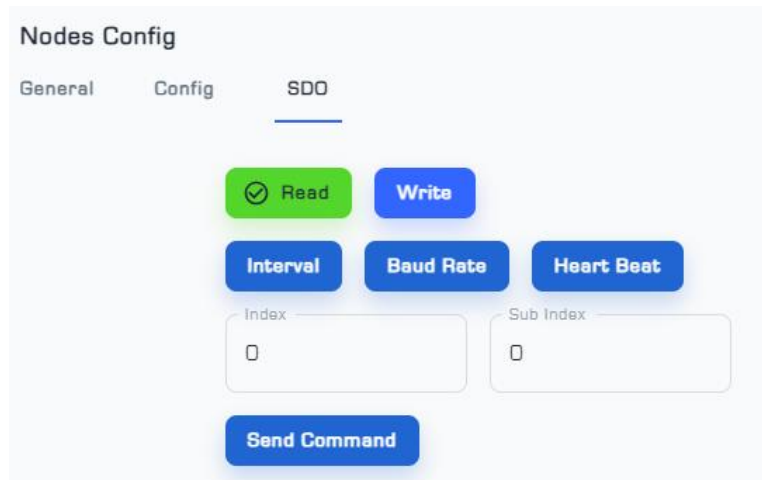

Figure 7: SDO Menu from Nodes Config Page
■ The SDO menu is used to change the parameters of Interval ¹ , Baud Rate ² , and Heartbeat³ (Figure 7).